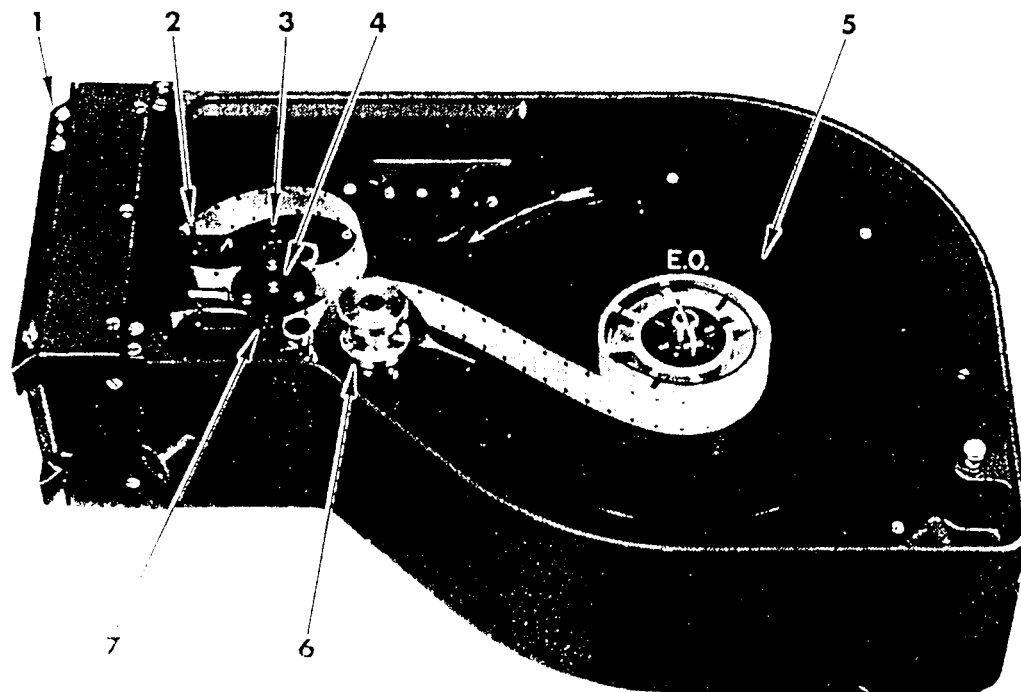

Fig. 13-13. Eclair NPR magazine (take-up side). Courtesy of Eclair International Diffusion.
6. (Fig. 13-13) Rotate take-up spindle counterclockwise to transport film through the upper channel. Wind sufficient film through and follow scribed film-guide lines. 7. Lift upper take-up sprocket guide. Push guide *up* (toward top of the magazine). Insert film *between* the sprocket and upper take-up sprocket guide. Push guide down to